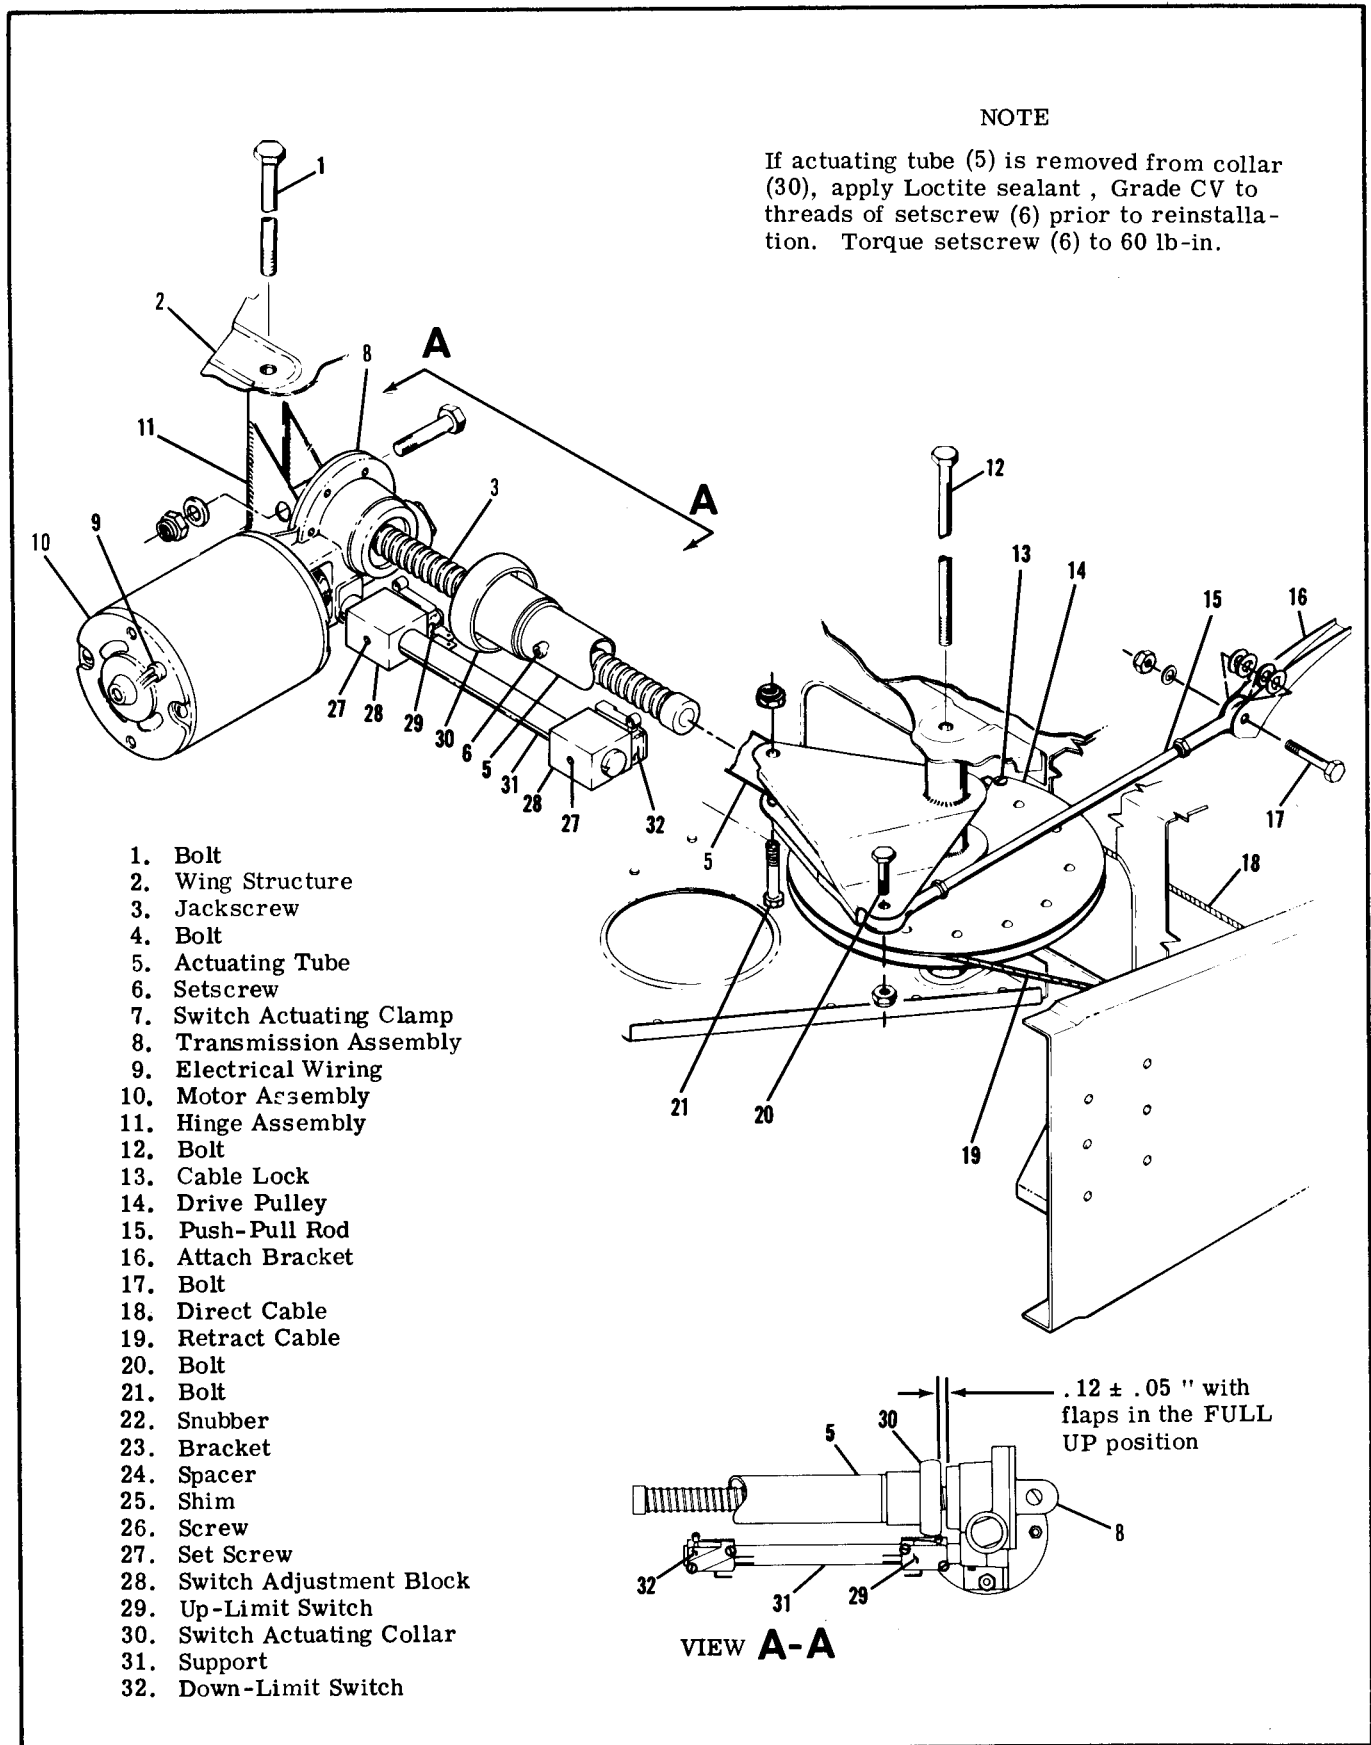
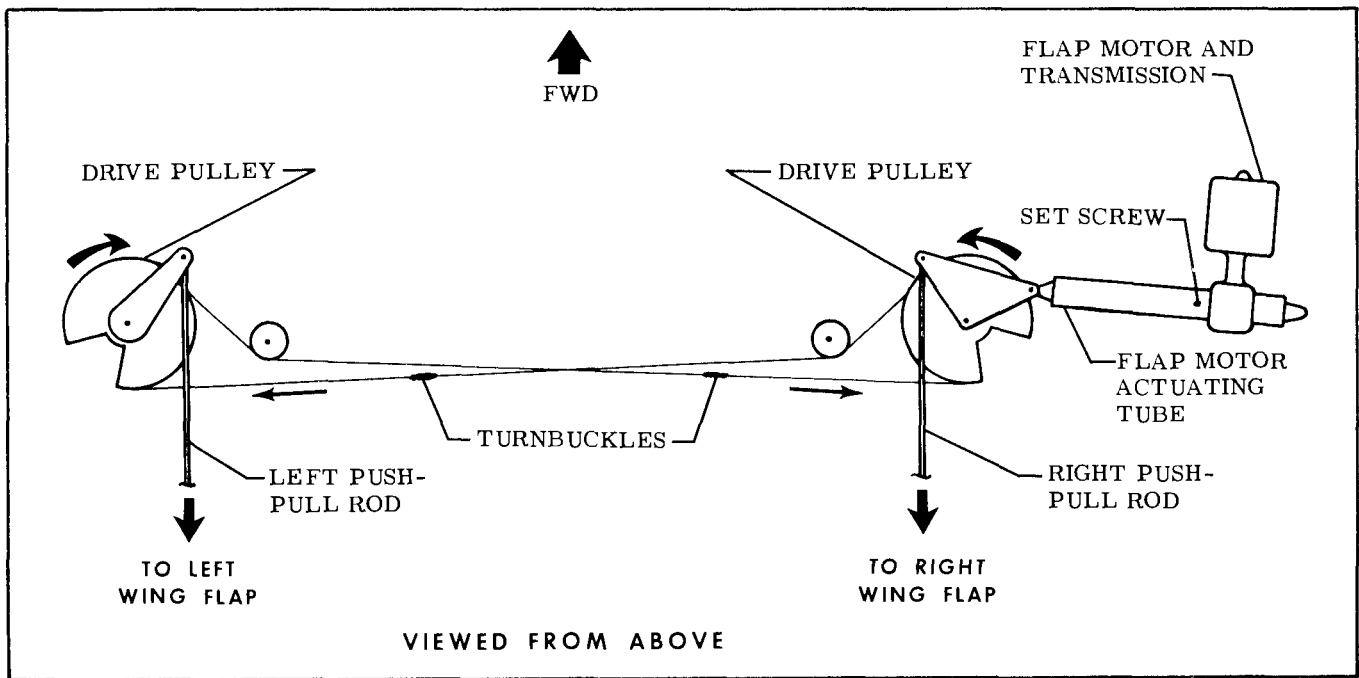

Figure 7-2. Flap Motor and Transmission Installation
Figure 7-4. Flap System Schematic
7-6. REMOVAL AND INSTALLATION (Refer to figure 7-2.)
7-8. DRIVE PULLEYS. (Refer to figure 7-2.)
- d. (Refer to figure 7-2.) Disconnect push-pull rods (15) at drive pulleys (14) in both wings and lower RIGHT flap gently.
- e. Disconnect actuating tube (5) from drive pulley (14).
If control cables are not connected to left and right drive pulleys, actuating tube (5) and push-pull rods (15) must be disconnected before installing cables. If drive pulleys (14) are not installed, attach control cables before installing drive pulleys in the wings as illustrated in figure 7-4.
- f. Adjust both push-pull rods (15) to  $8.83 \pm .12$  inches between centers of rod end bearings and tighten locknuts on both ends. Connect push-pull rods to flaps and drive pulleys.
g. (Refer to figure 7-2.) Screw actuating tube (5) IN toward transmission (8) by hand to  $.12 \pm .05$  inches between switch actuating collar (30) and transmission as illustrated in View A-A.
h. Loosen setscrew (6) securing actuating tube (5) to switch actuating collar (30) and hold collar to maintain  $.12 \pm .05$  inch while holding RIGHT flap in the full UP position and adjust actuating tube (5) IN or OUT as necessary to align with attachment hole in drive pulley (14).
i. Apply Loctite grade CV sealant (or equivalent) to threads of setscrew (6) and torque to 60 pound-inches.
- j. Run flaps to full DOWN position ( $40^{\circ}+0^{\circ}-2^{\circ}$ ) and check that flaps DOWN operating switch (18) remains closed as flap motor limit switch (index 32, figure 7-2) stops flaps of full DOWN position.